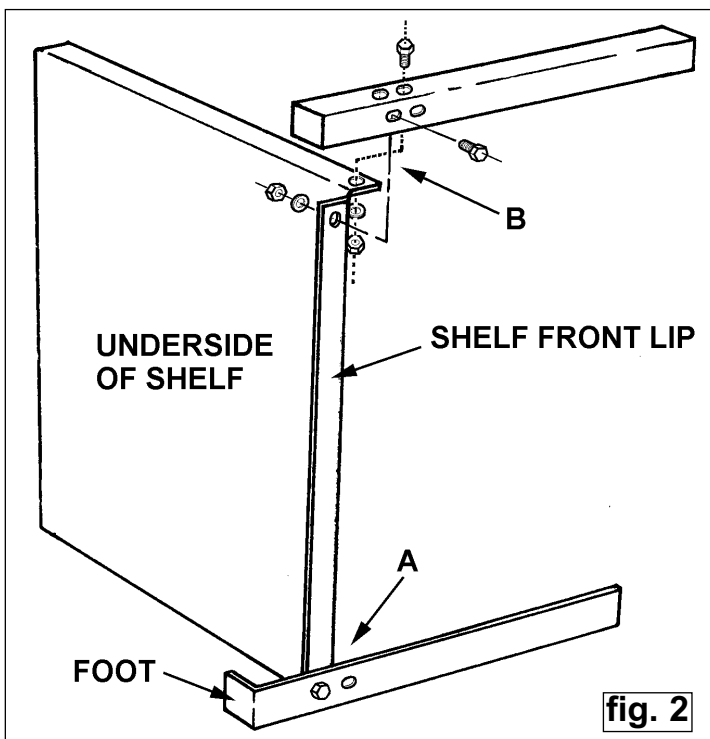

fig. 2
- 3.2 Lay one of the legs on the floor and place the shelf onto it as shown in fig.2-A. The shelf must be supported until both bolts are in place. The turned down lip at the front of the shelf should be nearest to the foot. Place a bolt into the hole nearest to the foot and hand tighten the nut down onto a washer. Continue to support the shelf. Turn it through 90 degrees so that you can bolt the same leg to the side of the shelf. Only hand tighten at this stage.
- 3.3 Now attach a second leg to the shelf using two sets of fixings as shown fig.2-B.